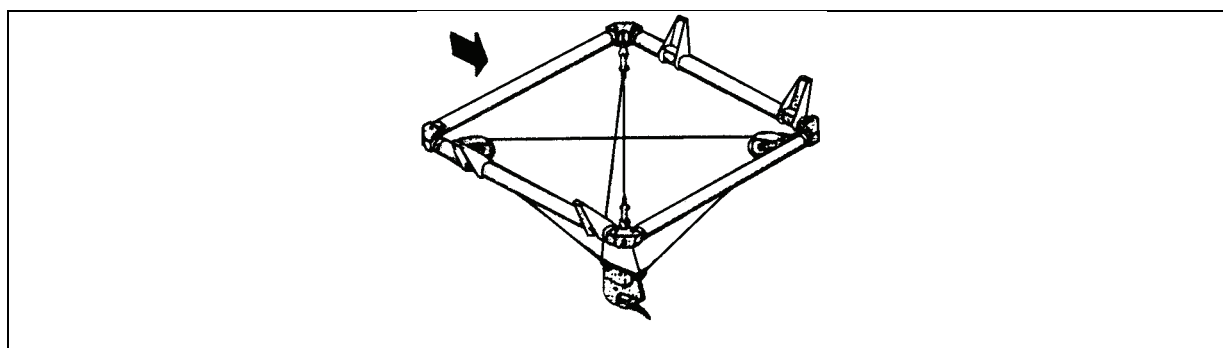

Figure 2-8. Low Response System
- In the low response system (Figure 2-8), the cargo hook is attached to a suspension frame through cables and pulleys.